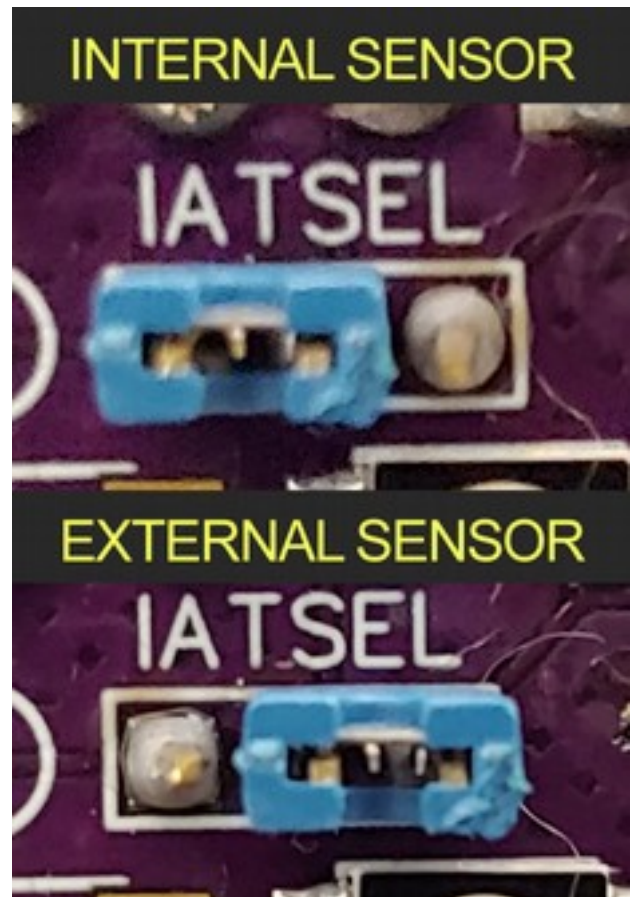

Figure 5
- d. If there is any doubt, it's best practice to use the built-in temp sensor within the SSSMCK. You can choose between internal and external temp sensors using the jumper as outlined in figure 5.